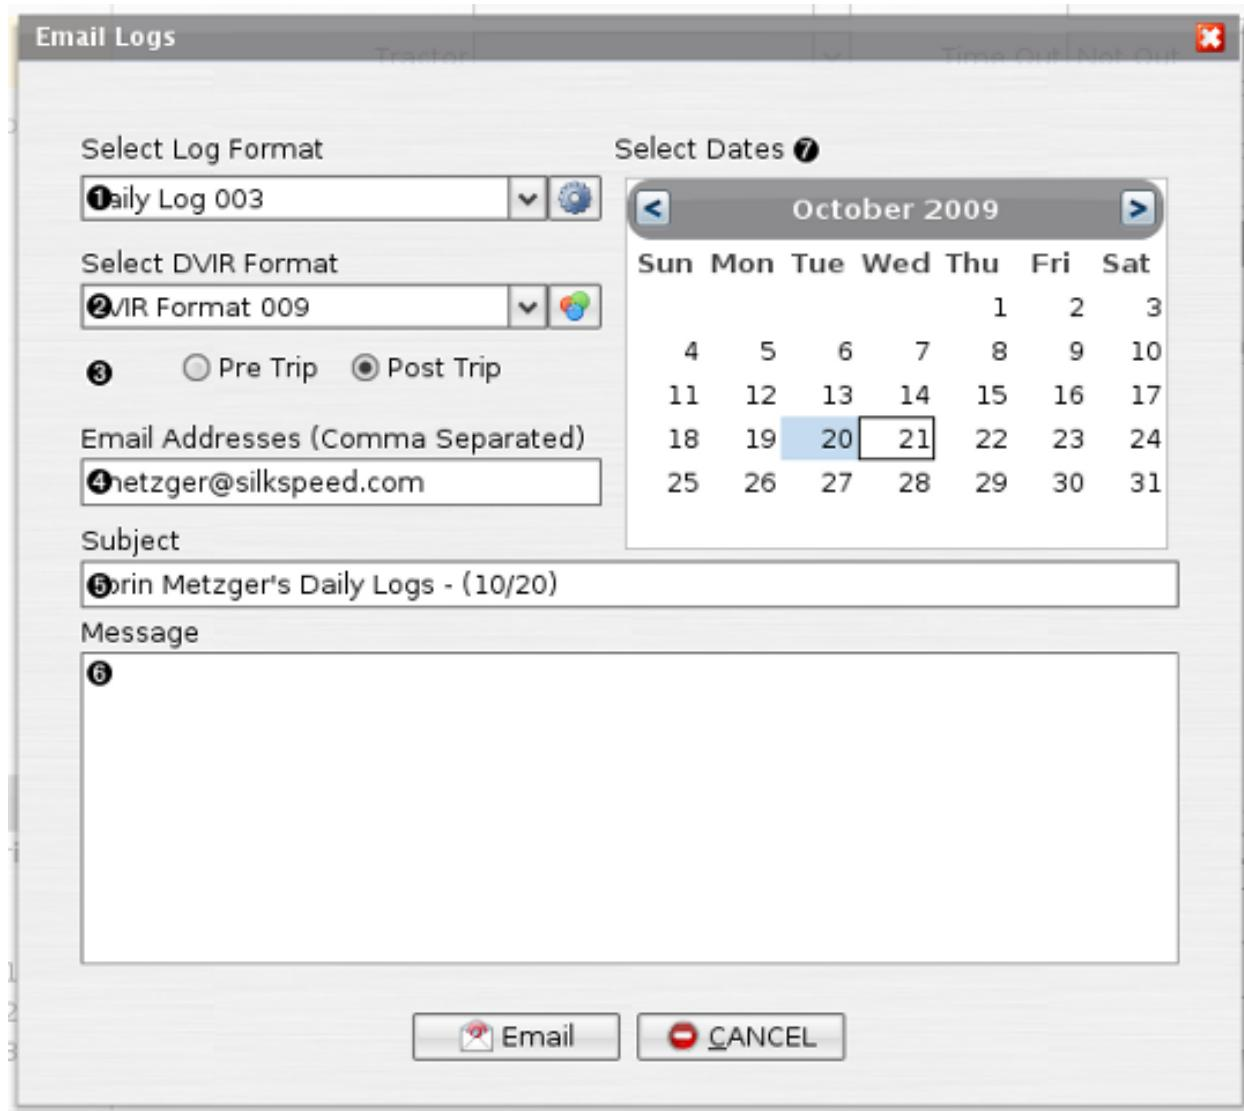

Figure 7.5. Email Logs Dialog
1. Make sure trucklogger is running, then select the File → Email Logs menu item or the “Email Logs” button located on the dock bar and wait for the email logs dialog to appear, see Figure 7.5, “Email Logs Dialog”.